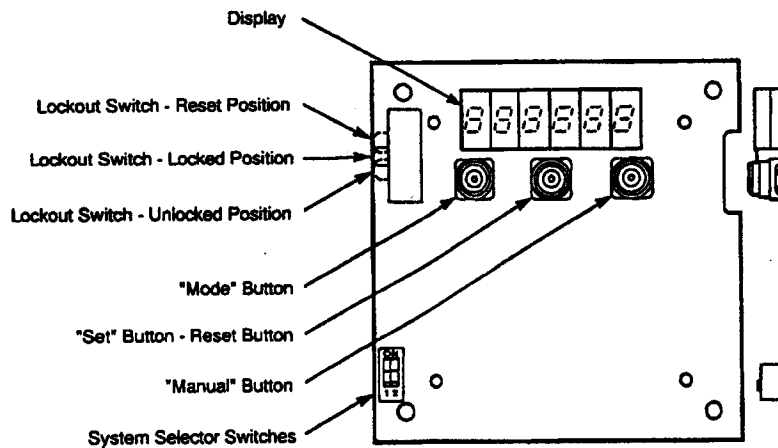

Figure 6
3. To view the circuit boards, remove the four nylon screws. The system selector switches are located at the lower left corner of the top (display) circuit board, see Figure 6.